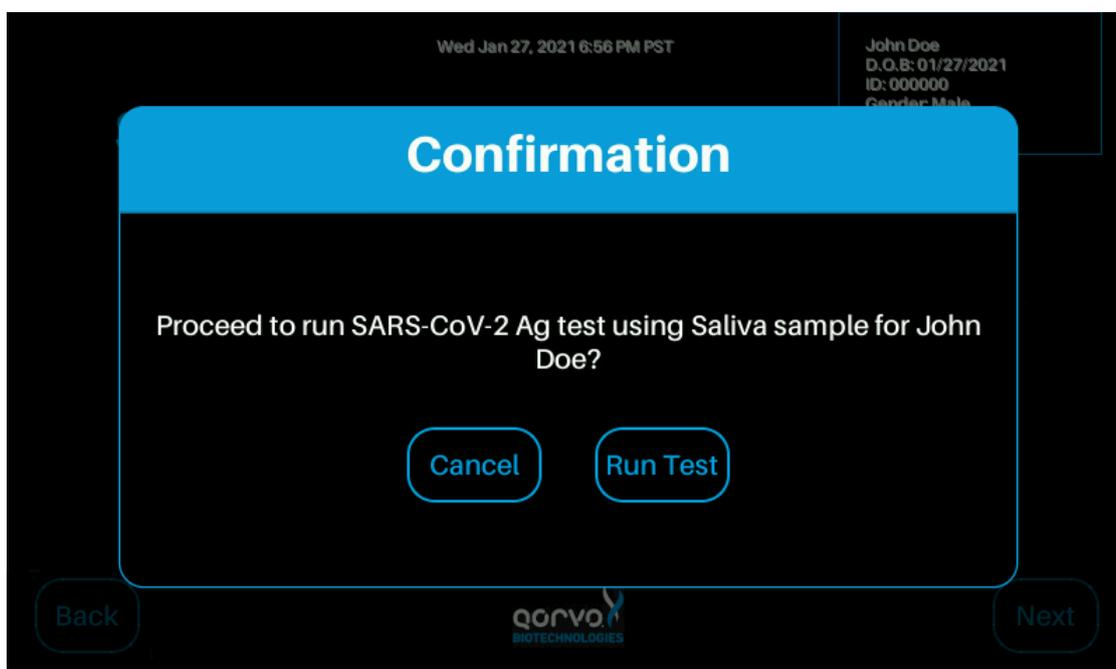

Figure 29
- The user is then required to confirm and run the test (Figure 29).